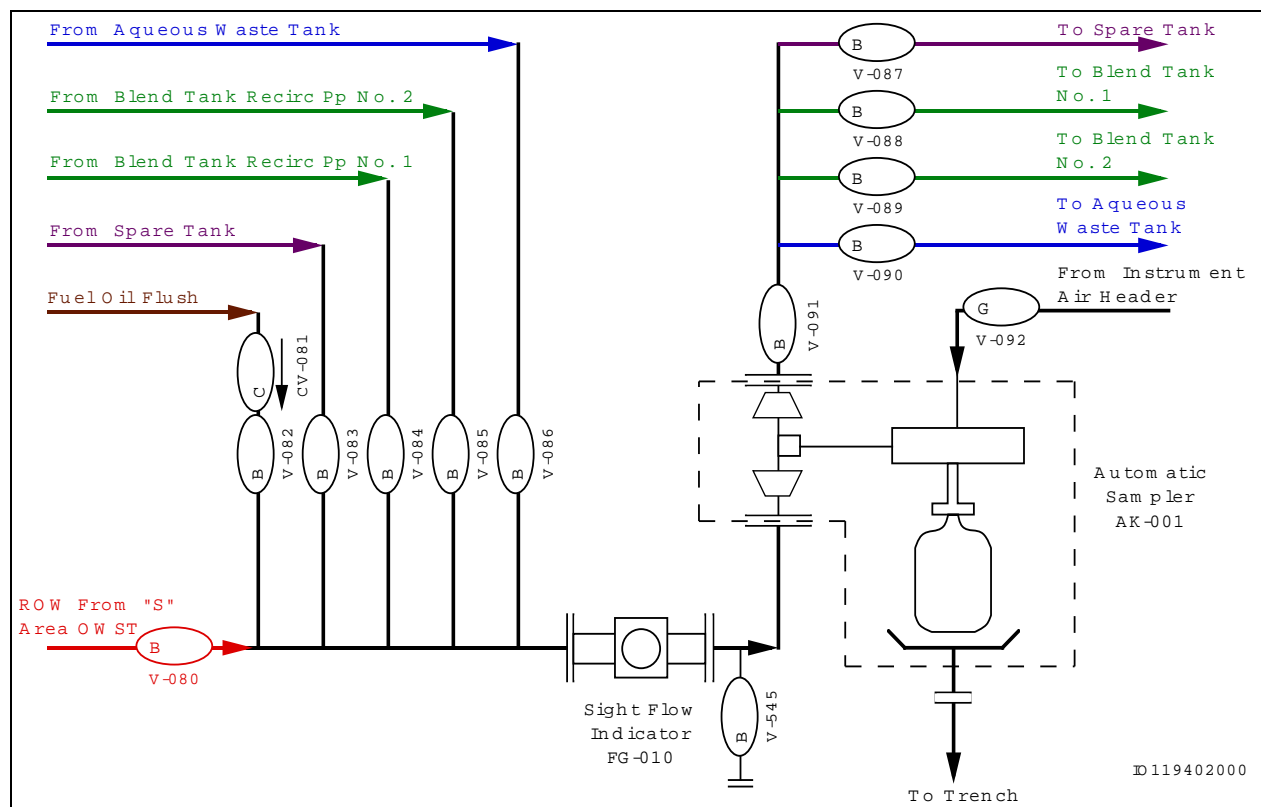

Figure 5 Tank Farm Automatic Sampler
There are two Blend Tank Transfer Pumps. Normally Blend Tank No. 1 is served by Pump No. 1 and Blend Tank No. 2 is served by Pump No. 2. Although piping is installed that allows either pump to serve either tank, this should not normally be utilized (only use on pump failure) since it eliminates all tank level/pump interlocks. The pumps are designed to circulate Blended Waste from the Blend Tanks to the suction of the Blend Feed Pump and back to the tank from where it came. The Blend Tank Transfer Pumps also supply the motive force to circulate Blended Waste through a one-inch line to the Tank Farm Automatic Sampler (See Figure 5 *Tank Farm Automatic Sampler*) for sampling purposes. Each of the pumps is provided with a one-inch branch line with an orifice that returns 10 gpm to the tank. These lines prevent a dead head condition by providing a minimum recirculation flow for the pumps. Piping is installed for both the sample lines and the recirculation lines to direct return flow back to the tank from which the fluid originates (when using the associated transfer pump). In the rare event that the Shift Supervisor (SS) determines that it is necessary, the contents of one Blend Tank can be transferred to the other Blend Tank via the recirculating loop. Also, if directed by the SS, in an emergency or as required to support process operations, Blend Tank contents can be pumped to the Spare Tank.